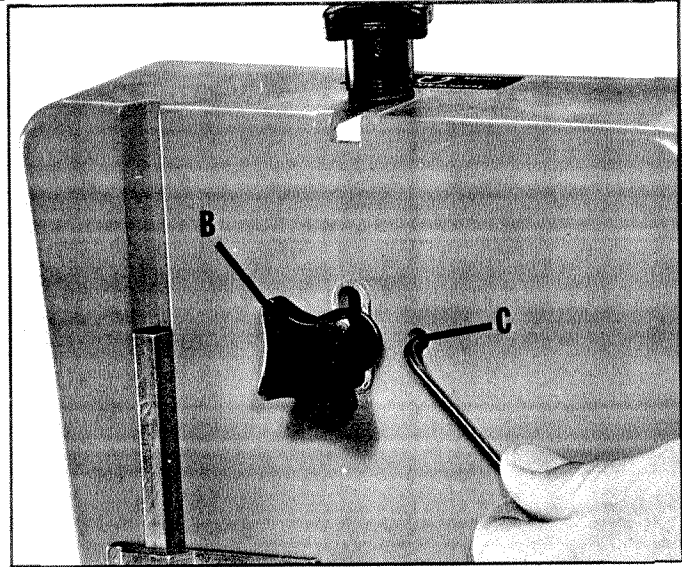

Fig. 11
3. Loosen the blade tension lock knob (B) Fig. 11, about 1/4 of a turn. Using the hex wrench supplied, turn the blade tracking adjusting screw (C) **SLIGHTLY** clockwise to move the blade to the rear and counter-clockwise to move the blade to the front. **NOTE: Very little movement of the blade tracking adjusting screw (C) is necessary.**
4. Tighten blade tension lock knob (B) Fig. 11